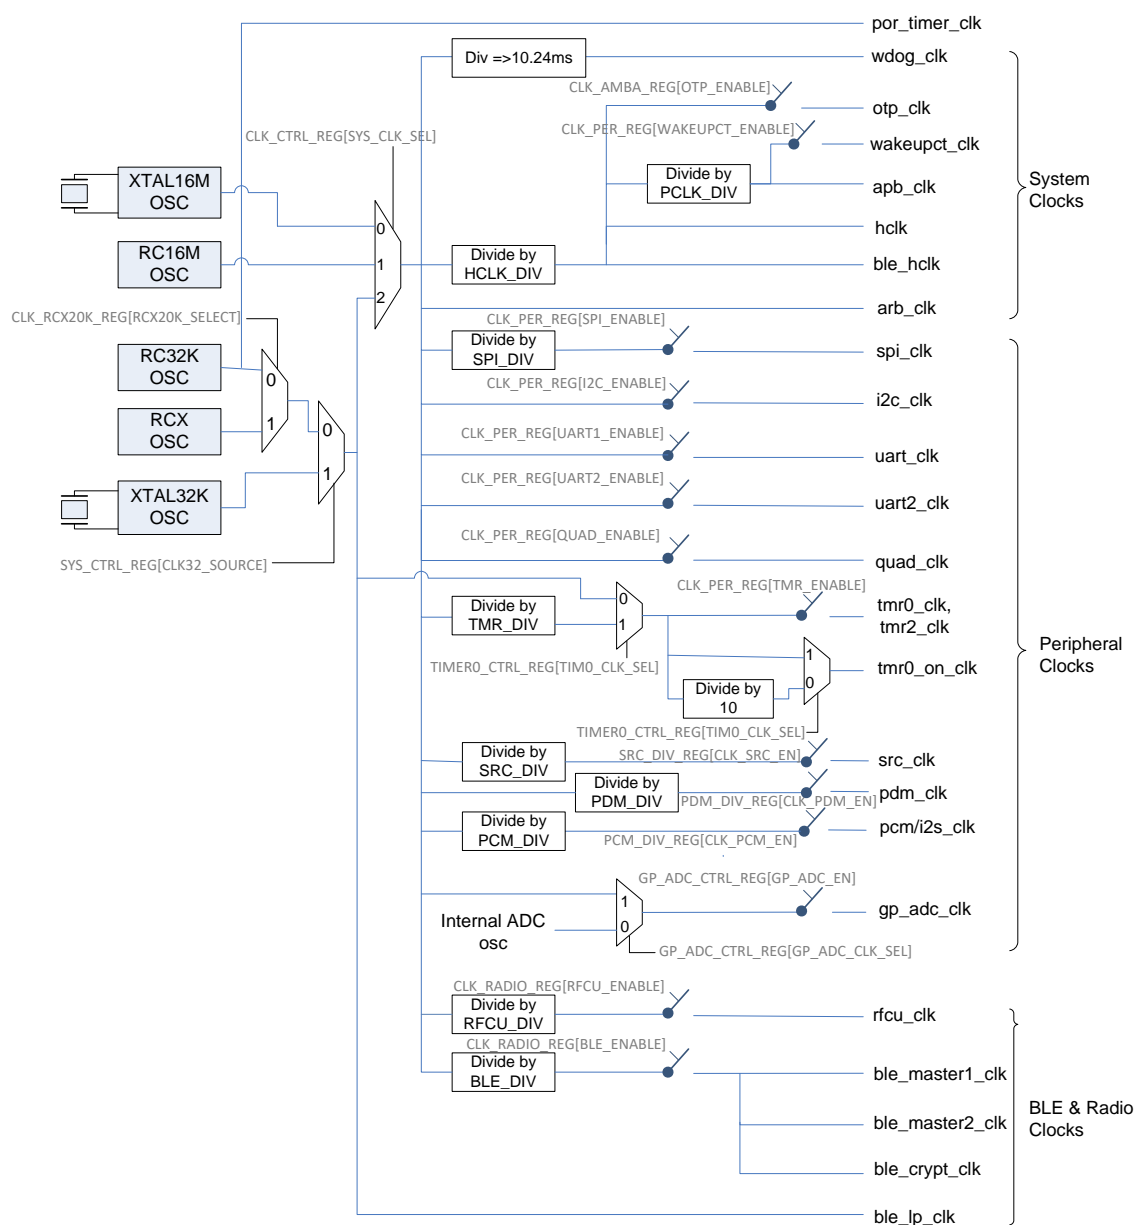

Figure 23: Clock Generation Block Diagram
The clock names depicted in Figure 23: Clock Generation Block Diagram are explained in Table 32.
- When the SPI block is set to Slave mode, then the spi_clk (as depicted in Figure 23) should be at least 4x the clock frequency provided by the external SPI Master. This is required for proper sampling of the data line